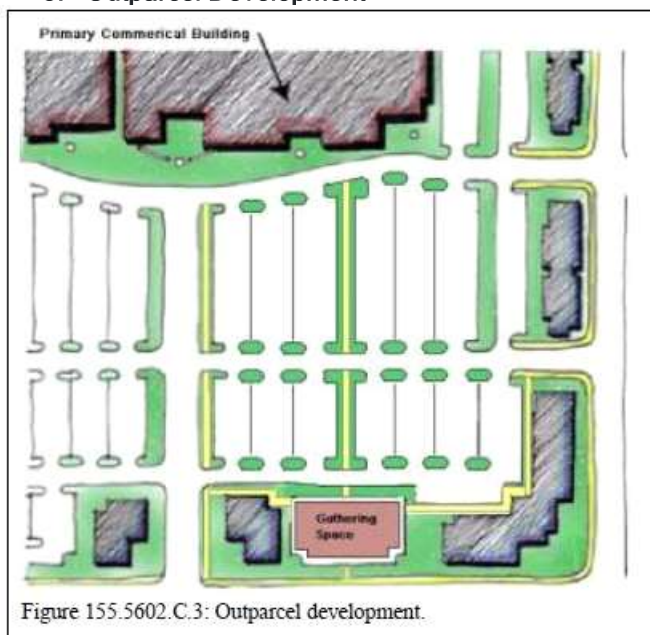

Figure 155.5602.C.3: Outparcel development
- b. Spaces between buildings on outparcels shall be configured with small scale pedestrian amenities such as plazas, seating areas, pedestrian connections, and gathering spaces. (See [Figure 155.5602.C.3 <https://codelibrary.amlegal.com/codes/pompanobeach/latest/pompanofl_zone/0-0-0-39355>](https://codelibrary.amlegal.com/codes/pompanobeach/latest/pompanofl_zone/0-0-0-39355); Outparcel development.)